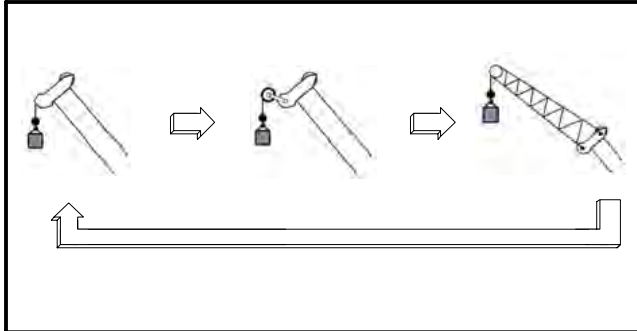

Figure 1–84
- b. Scroll through the available lifting points until the desired lifting point, for the winch selected, is displayed. Refer to Figure 1–84.